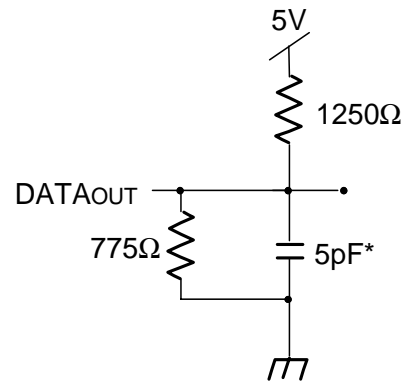

Figure 2. Output Test Load
1. Transition is measured 0mV from Low or High-Impedance Voltage Output Test Load (Figure 2).
- Transition is measured 0mV from Low or High-impedance voltage with Output Test Load (Figure 2). This parameter is guaranteed by device characterization but is not production tested.